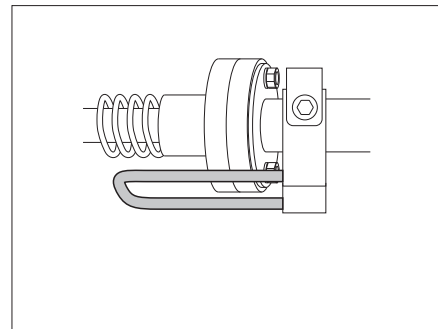

Fig. 153 Locking lever in the secured position
- Before using the bed check whether the locking lever is located in the secured position (Fig. 153).
- Set the locking lever to the secured position (Fig. 153).